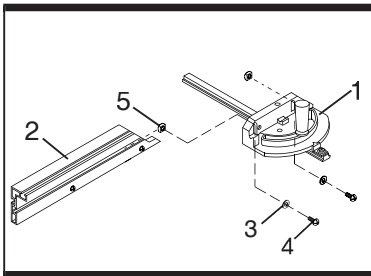

**Fig 9**
- 1) Attach the square nuts to the rip fence with the clamp handles (1) through the washers (5) and holes in the rip fence.
- 2) Slide the auxiliary fence (3) to the square nuts (2).
- 3) Tighten the clamp handles (See fig. 9).